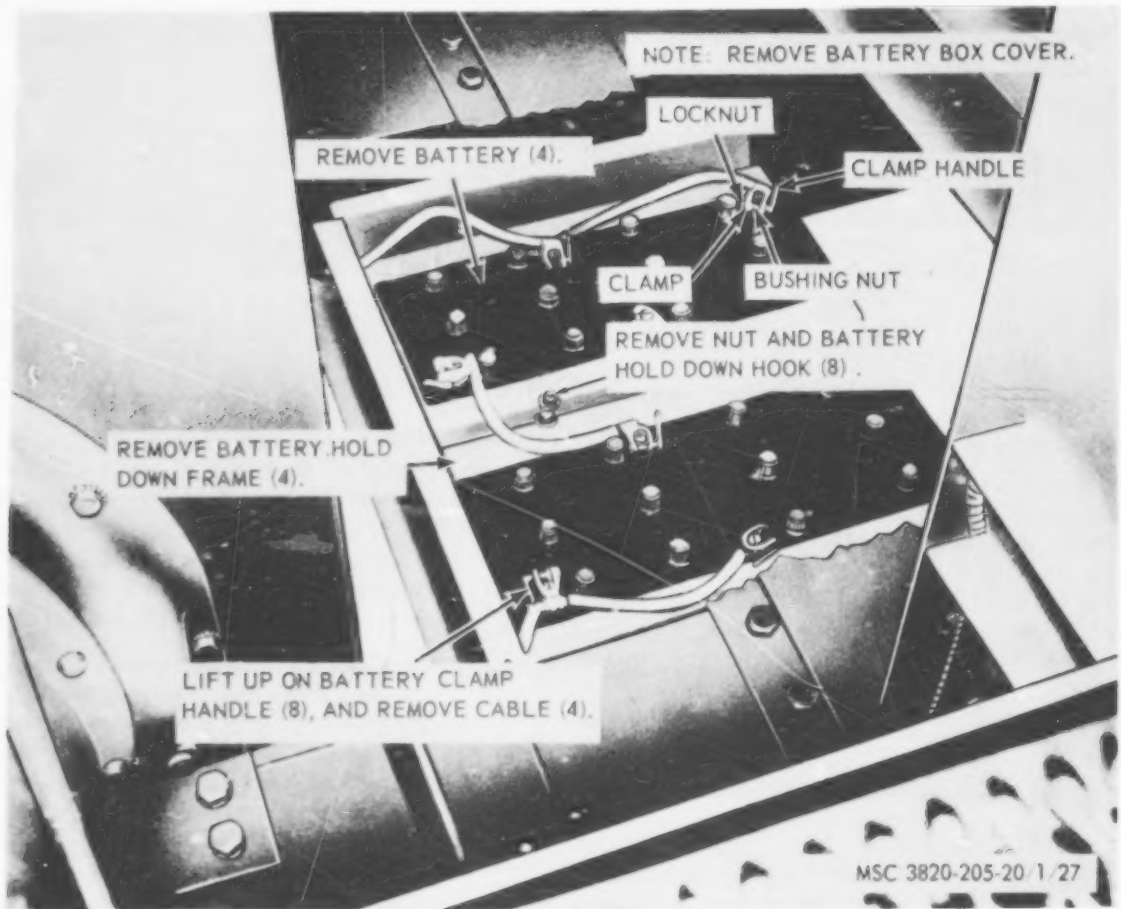

Figure 27. Batteries and cable, removal and installation.
- (1) Loosen locknut (fig. 27) and place clamp handle up or at right angle to battery terminal.
- (2) Remove clamps from battery terminals; inspect clamps for loose or corroded condition. Remove corrosion and coat battery terminals and clamps with grease.
- (3) Remove the batteries and cables from the unit as instructed on figure 27.
- (1) Install the batteries and cables on the unit in reverse of the instructions on figure 27.
- (2) Install clamps on battery terminals. Tighten bushing nut to friction-fit between lug and battery terminal.
- (3) Tighten locknut and push handle down parallel with clamp.